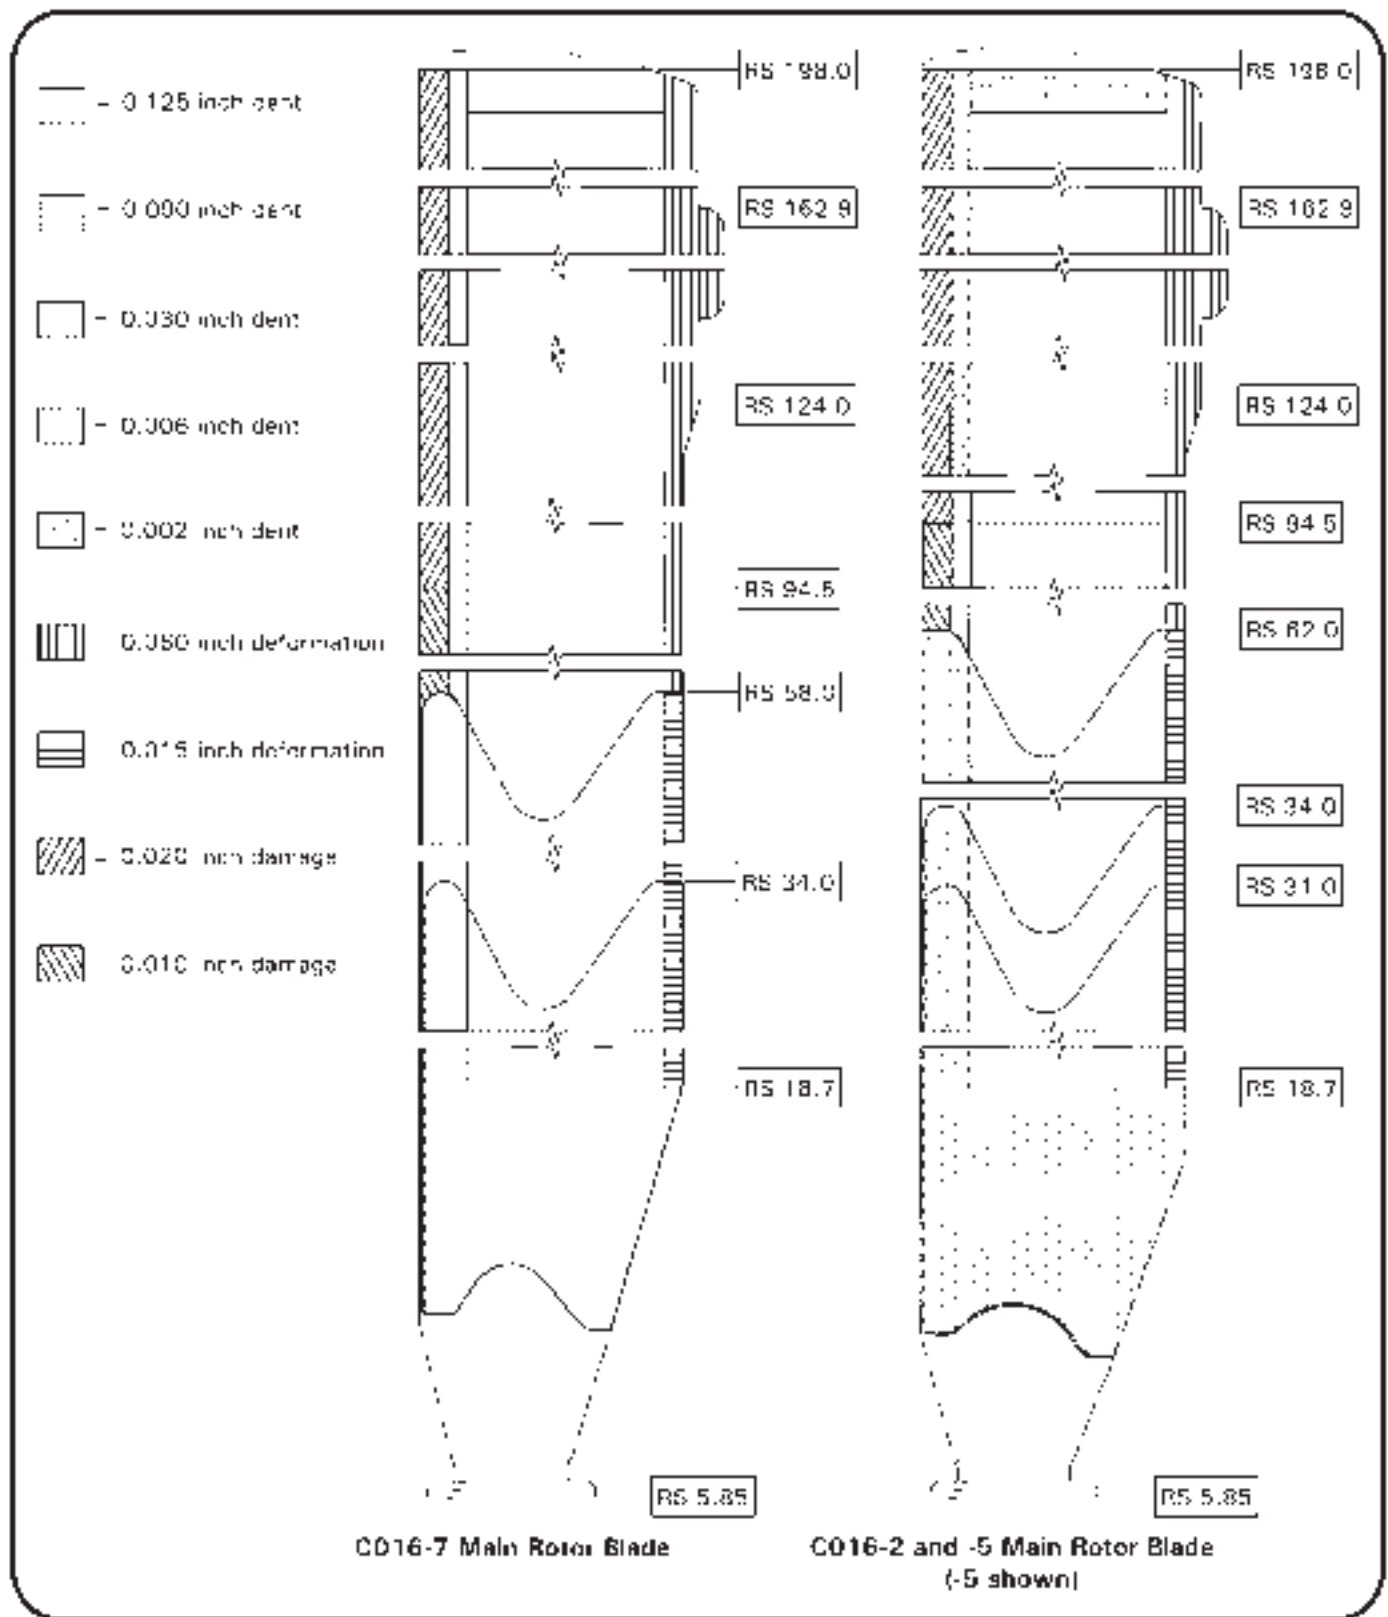

FIGURE 9-12 DENTS AND LOCAL DEFORMATIONS
1. Refer to Figure 9-12. Damage may not exceed the following limits: